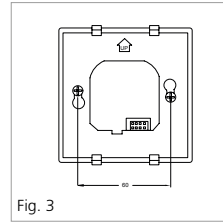

Fig. 3
3. Fix the mounting plate to the wall using either a recessed or surface mounted back box using the screws provided. See fig 3.